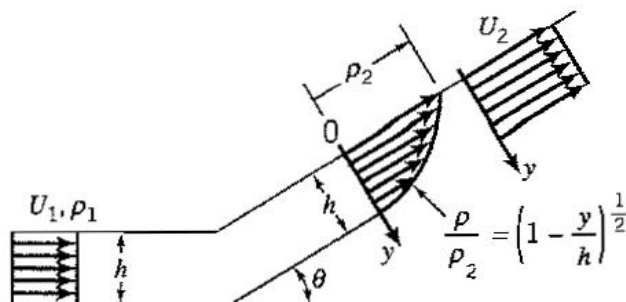

Figure P3.30
3.30 A fluid enters the rectangular duct shown in Figure P3.30 with constant velocity U_1 and density ρ_1 . At the exit plane, the fluid velocity is U_2 and the density has a profile